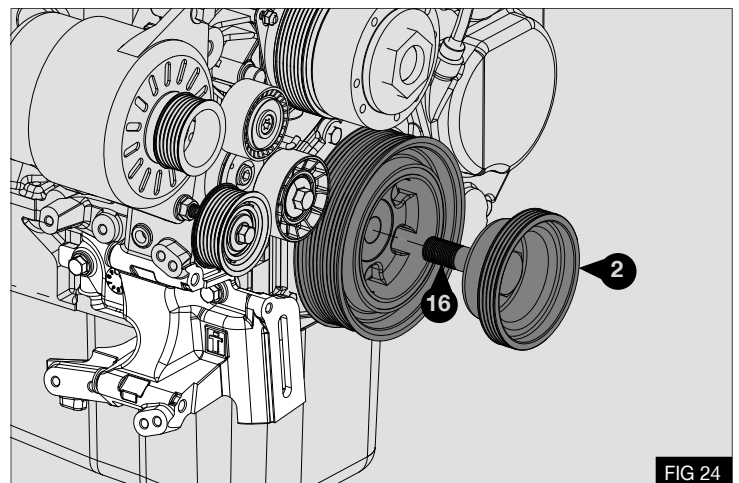

FIG 24
2. Fit the pulley (2) with bolt (16); ensure correct seating -Fig 24
3. Using the method detailed earlier lock the engine and torque bolt (16) to 350Nm / 258Lbft
4. Once crank bolt (16) is correctly tightened, re- fit the starter motor (V) using the original fasteners into their original holes and torque to 25Nm 18Lbft